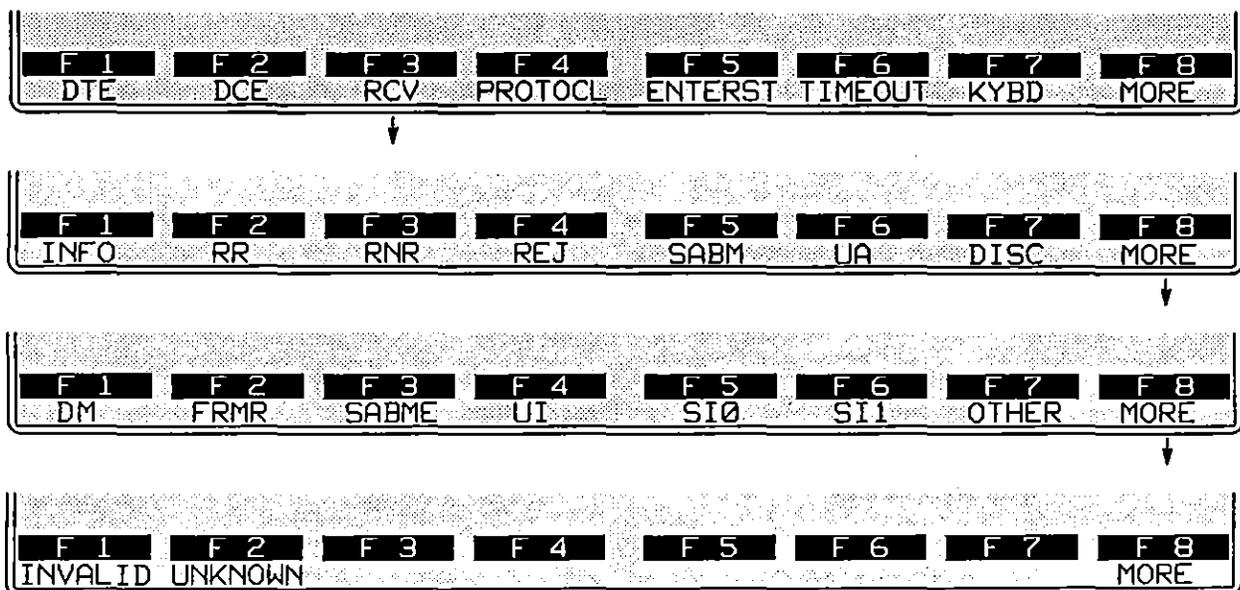

Figure 42-14 *INVALID* and *UNKNOWN* are frame types for RCV conditions.
3. *Type invalid.* RCV conditions can detect frames that are invalid “types”—the control field is missing, for example, or the I-field is missing in an I-frame. The Protocol Spreadsheet entry for this condition is RCV INVALID, and the softkey sequence is illustrated in Figure 42-14.
4. *Type unknown.* A frame may be valid in all respects but have a control field that indicates a nonstandard frame type. Such a frame may be matched by a RCV UNKNOWN condition (Figure 42-14).